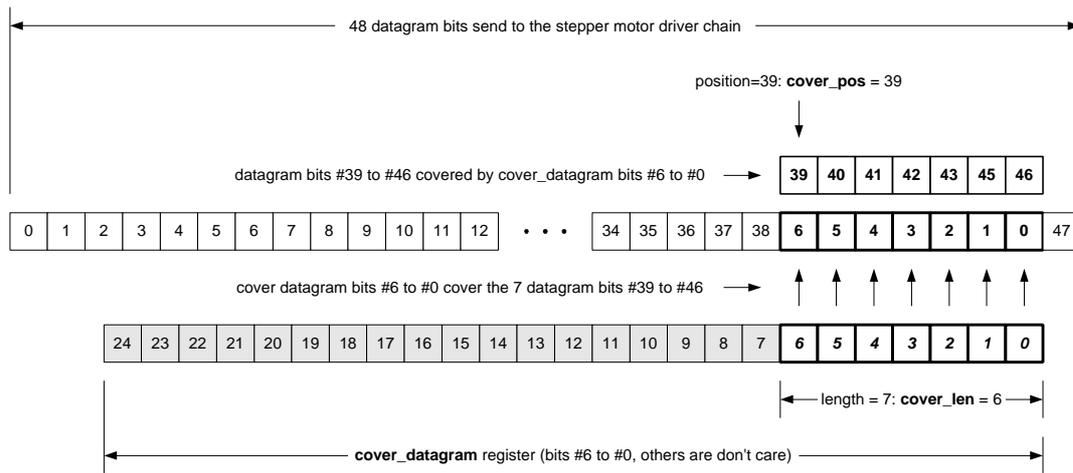

Figure 10: Cover Datagram Example
This register holds up to 24 bit of a cover datagram. A cover datagram covers the next datagram sent to the stepper motor driver chain. If no datagrams are sent to the drivers chain, the cover datagram is sent immediately. The status of the cover datagram is mapped to the status bits sent back with each datagram (see page 10, **CDGW**). This status bit is also available for readout of **cover\_pos & cover\_len (JDX=%0010)**, where **CDGW** the most significant data bit (23). An example for the cover datagram is given in Figure 10. In that example 7 bits cover 7 bits of a 48 bit datagram from bit number 39 to bit number 46.